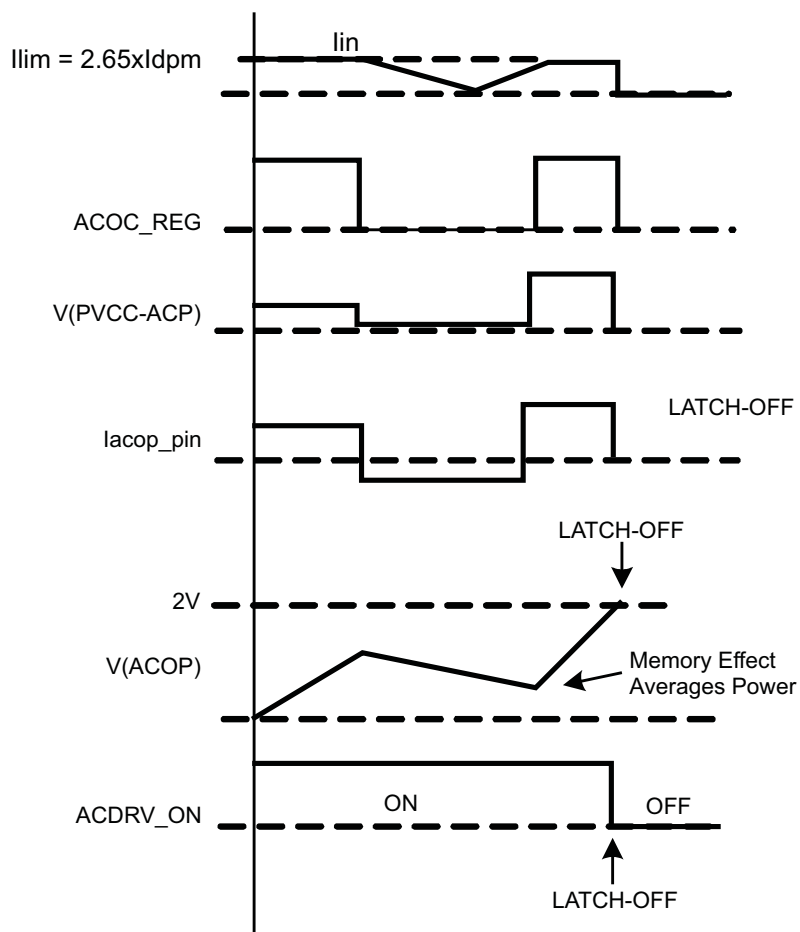

Figure 38. ACOC Protection and ACOP Latch Off with Memory Effect Example
- Memory effect (capacitor charging and discharging) allows protection from repetitive ACOC conditions, depending on duration and frequency. (Figure 38)